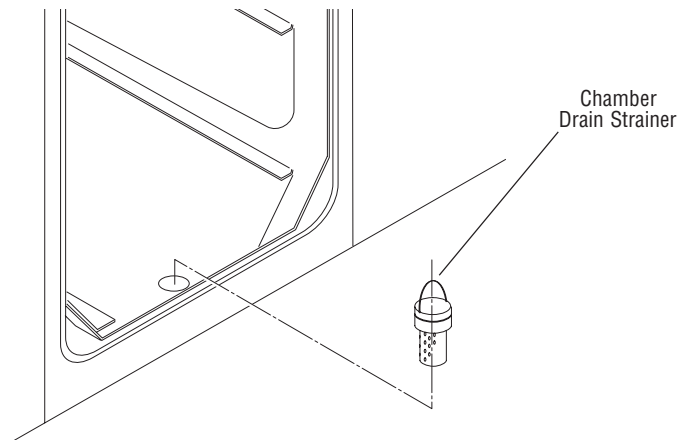

Figure 7-1. Remove Chamber Drain Strainer
1. Remove the drain strainer from the drain in the bottom of the chamber as shown in Figure 7-1.
2. Remove chamber drain strainer (Figure 7-1). Clean strainer using procedures given above, if necessary.